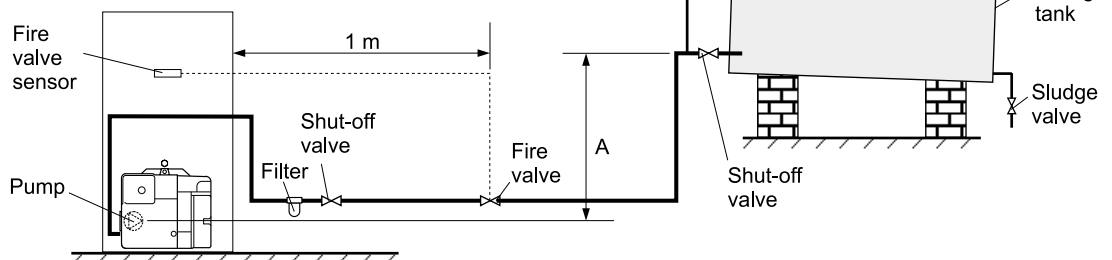

Fig. 2 - Single pipe system
- 5 A flexible fuel line, adaptor and 1/4" BSP isolation valve are supplied loose with the boiler for the final connection to the burner. If a two pipe system or Tiger Loop system is used, an additional flexible fuel line and 3/8" to 1/4" BSP male adaptor are available from Grant Engineering (UK) Limited.
4.4.3 Single pipe system - (See Fig. 2)